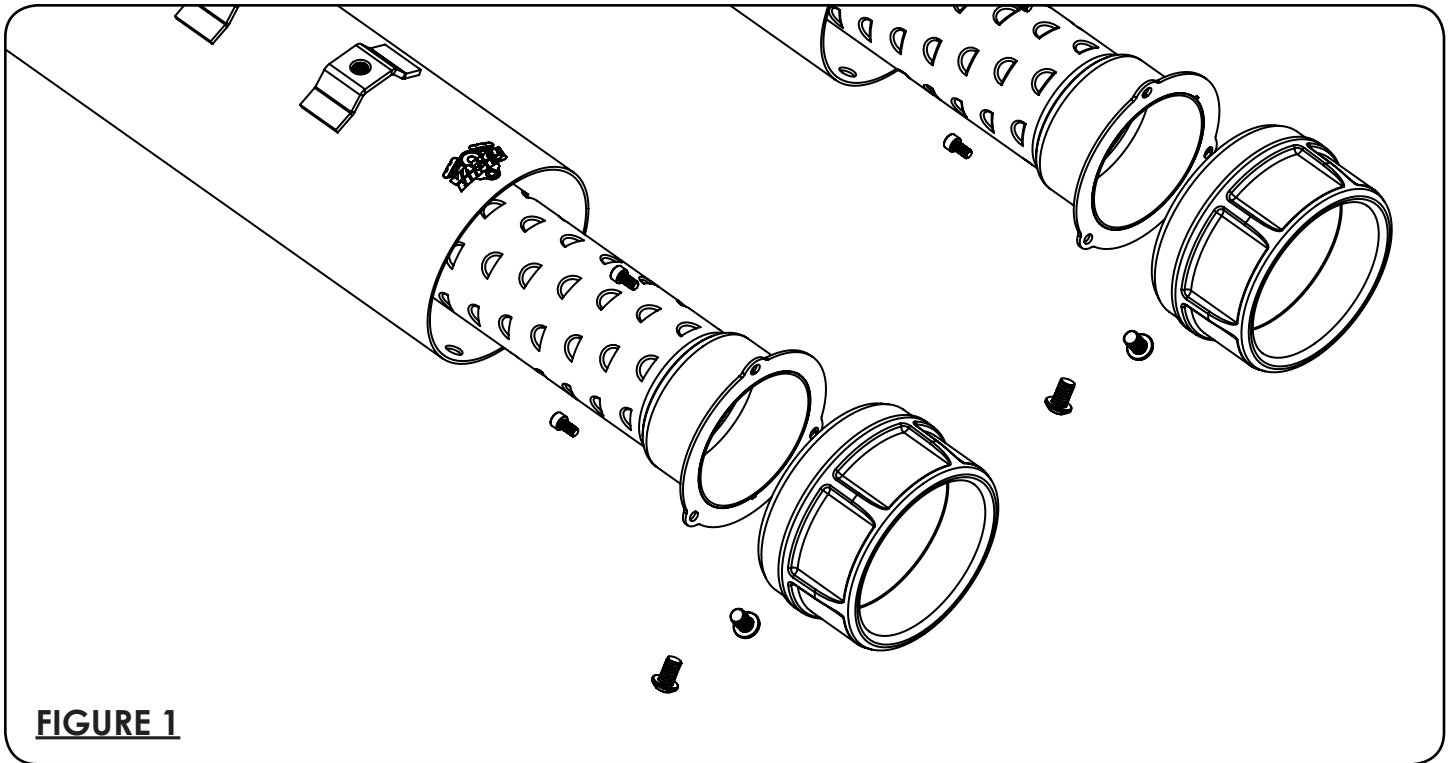

FIGURE 1
1. Remove the end cap. The end caps are held on by two 5/16-18 button head screws located on the bottom side of each muffler body (**Figure 1**).
3. After removal of the end cap/baffle assembly, locate the (3) 10-32 cap screws that retain the end cap to the baffle. Remove end cap screws from the baffle and discard them (**Figure 1**).
4. Install the end cap onto the new baffle using (3) 10-32 cap screws provided.